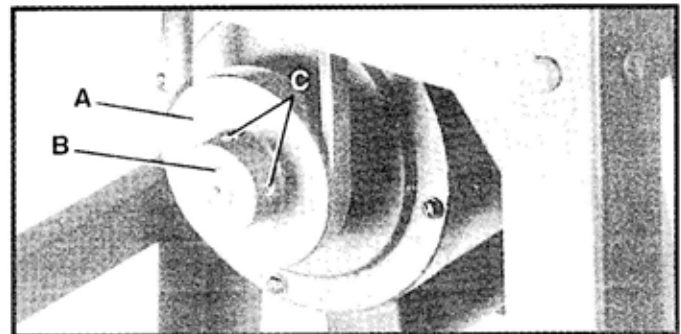
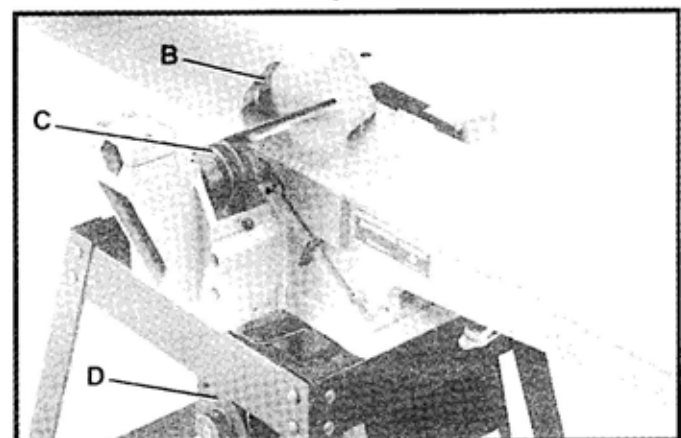

Fig. 16
Fig. 18
1. Assemble motor pulley (A) Fig. 16, to motor shaft with the hub of the pulley in the outer position as shown. Make sure key (B) is inserted in the keyway of the motor pulley and shaft.
2. Place the belt in groove of cutterhead pulley (C) Fig. 18, and motor pulley (D).
3. Make certain the motor pulley (D) Fig. 18, is aligned with the cutterhead pulley (C). If necessary, the motor pulley (D) can be moved in or out on the motor shaft to provide proper alignment. Then tighten two set screws (C) Fig. 16.
6. Replace cutterhead pulley guard (B) Fig. 18, which was removed in **STEP 1**